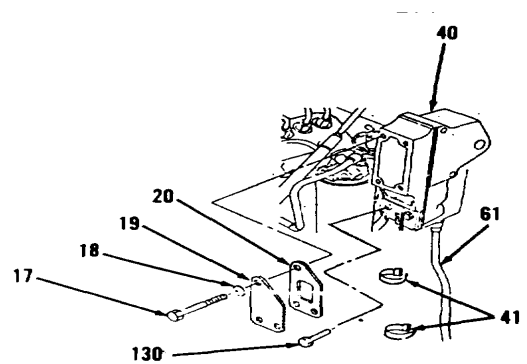

Figure 3-178.
1. Install two new straps (41) around cable (61, Figure 3-178) and governor switch wires.
2. Install new gasket (20), cover (19), four washers (18) and bolts (17).